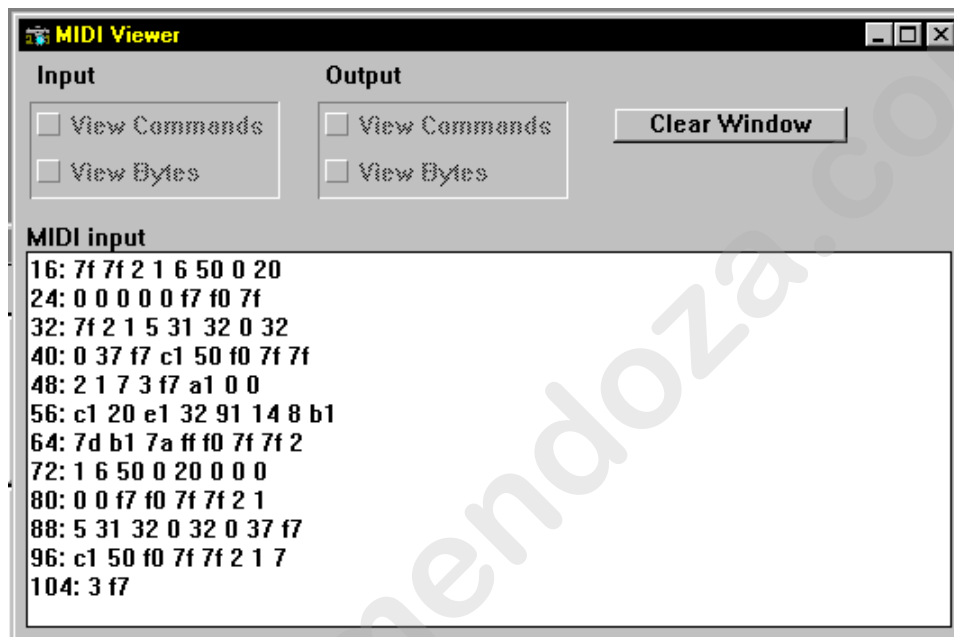

Figure B.8. MIDI Viewer Sample Window
1. Select **MIDI Viewer...** from the **Window** drop-down menu. This brings up the **MIDI Viewer** window. Refer to Figure B.8.